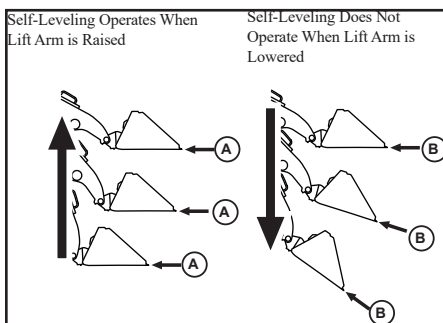

Fig. 33 - Self-Leveling Operation
Self-leveling automatically keeps the tilt angle of the attachment constant, relative to the ground plane, (Fig. 33) when the lift arm is raised (A). This feature is especially useful when using pallet forks.
**IMPORTANT:** *Self-leveling operates only when the lift arm is raised: when the lift arm is lowered (B), self-leveling is not activated.*